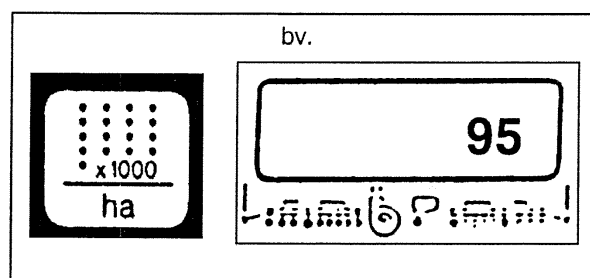

fig.5
4.2.5 De toets "aantal zaden/ha" (fig.5)